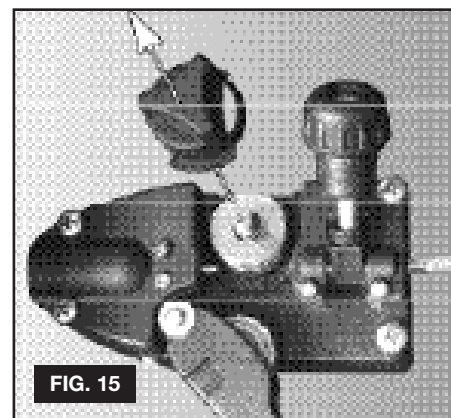

FIG. 15
- 14.3.1 There are two grooves on the feed roller, 0.6mm and 0.9mm. Always have the groove that is being used on the outside of the roller (nearest to you). To turn the feed roller first loosen the wire tension knob and move it into its up position (see fig.14-1) then move the tensioning roller assembly to its down position (see fig.14-2). Take hold of the triangular knob on the roller retainer and rotate it 90° anticlockwise to release it as shown in fig.14.3. Now pull the roller retainer off the drive spindle to reveal the roller as shown in fig.15. Pull the roller off the drive spindle, flip it over and put it back on the drive spindle. (See fig.16) The groove size you require should now be visible on the face of the roller. Push the roller retainer back onto the drive spindle with the opening facing right. Ensure that the flanges at the base of the retainer, seat fully into the circular recess in the main moulding and then rotate the retainer through 90° to lock it in place.